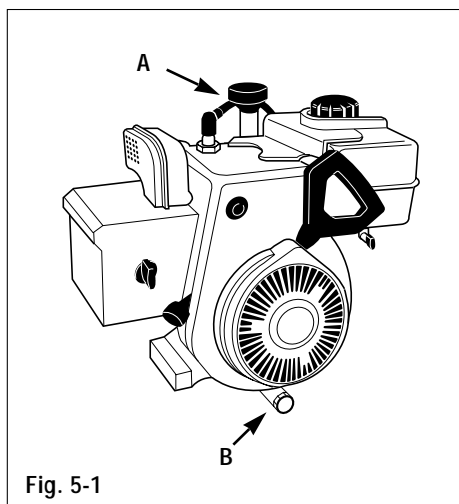

Fig. 5-1
2. Remove the oil dipstick (A, Fig. 5-1).
5. Remove the oil dipstick (A, Fig. 5-1) again.
4. Remove the engine oil dipstick (A, Fig. 5-1) to allow venting for the engine crankcase.
7. Remove the oil drain plug (B, Fig. 5-1) and allow the oil to drain into the container.
8. When all oil has completely drained from the crankcase securely replace the oil drain plug (B).
10. Securely replace the oil dipstick (A).